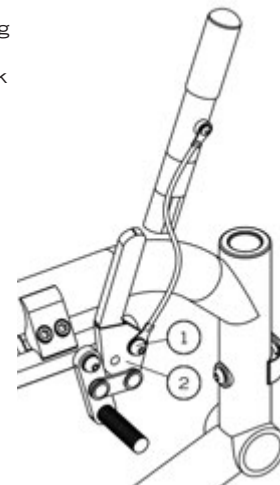

Fig. 28
- Loosen screw (1) (Fig. 28).
- Align eyelet (2) with the mounting hole.
- Re-tighten screw (1) on the Lock lever.